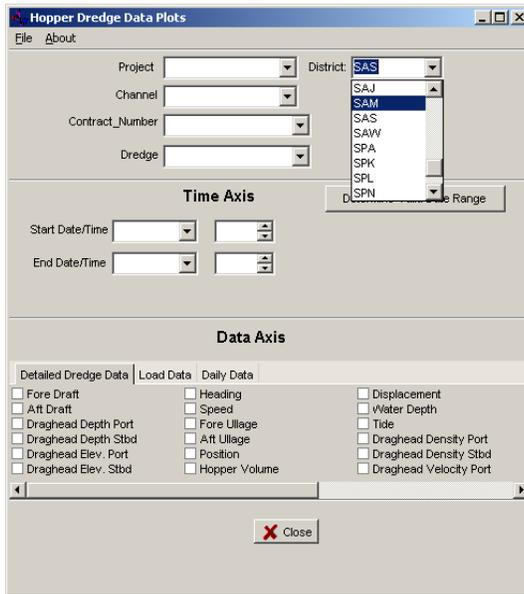

Figure 2.2 Select Corps District
1. Select the Corps District from the District pull-down menu as in Figure 2.2.